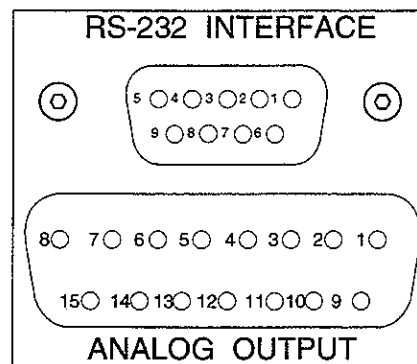

Figure 5-8
3. Referring to Figure 5-8, measure the voltage between Pin 2 (ground) and Pin 1 of the Analog Output connector (Pressure Channel 0).